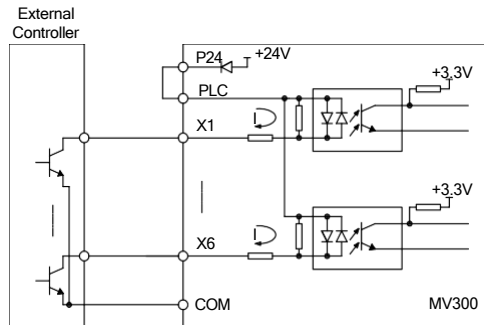

Fig. 3-13 The source connecting mode when using the internal +24V power supply of the drive
1) When the internal +24V power supply is used and the external controller is the NPN common emitter output, the wiring mode is as shown in Fig. 3-13.